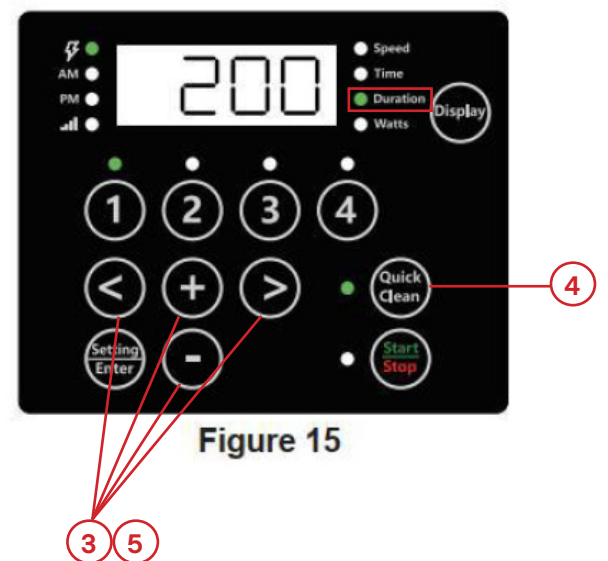

Figure 15
- 4) Press Quick Clean. The Quick Clean duration will display. The "Duration" parameter LED will blink while editing. See Figure 15.